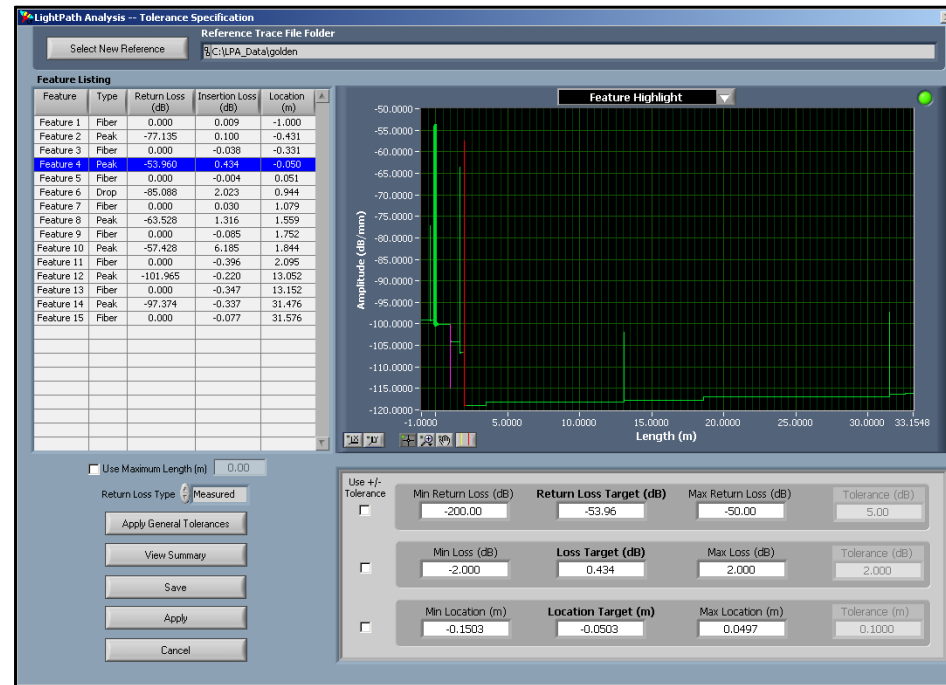

Figure 6-8. Selecting **Setup > Feature-Specific Tolerance** from the main menu calls up the **Tolerance Specification** window above.
The main advantage of using a **Reference Trace** instead of **General Tolerance** values is that each individual feature can have its own tolerance range. To assign these values, select **Setup > Feature-Specific Tolerance** from the main menu, which opens the **Tolerance Specification** window (Figure 6-8).
The pull-down menu in the **Tolerance Specification** window graph (Figure 6-8) can be used to change the display. The **Feature Highlight** option shows all of the feature segments. The **High Resolution Data** option shows the amplitude plot for whichever feature was highlighted in the **Feature Listing** grid.
The **Maximum Length** value can also be modified through the **Tolerance Specification** window (Figure 6-8 on page 88) Select **Setup > Feature-Specific Tolerances** from the main menu. Click in the **Use Maximum Length** checkbox just
- 5 Modify the **Feature-Specific Tolerances** for the *golden* trace to match the test requirements in the **Tolerance Specification** window (Figure 6-8 on page 88).